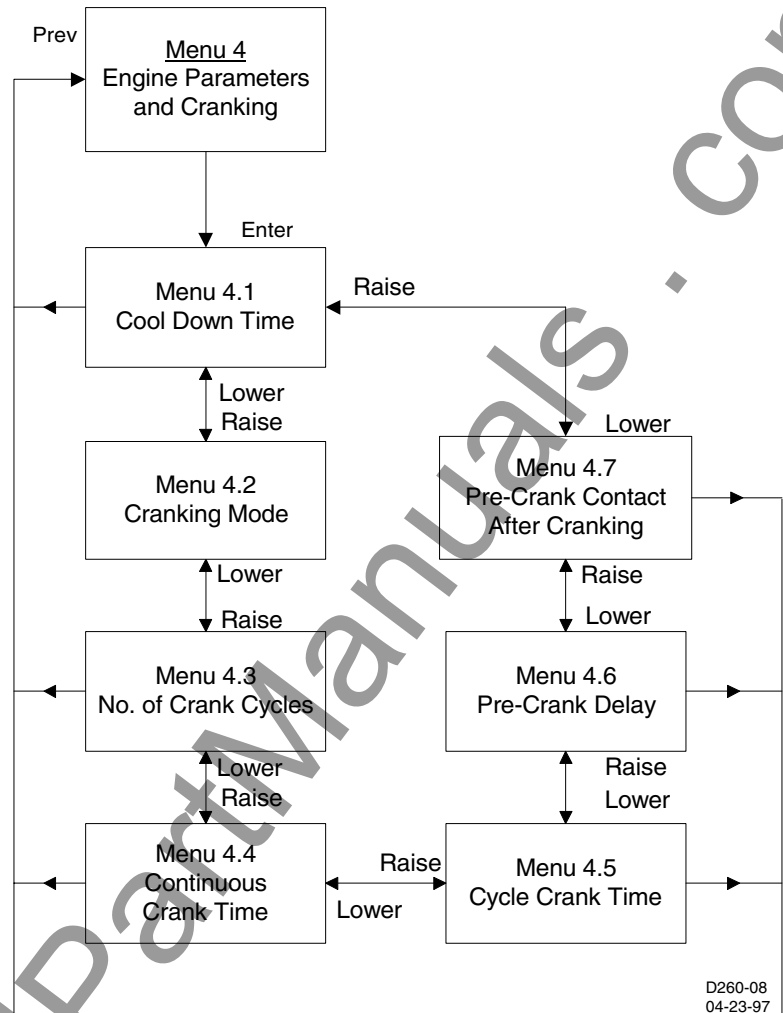

Figure 3-10. Menu 4
**Menu 4.** Menu 4 (Figure 3-10) displays engine parameters and cranking. Pressing **Select/Enter** from menu 4 begins menu 4.1.